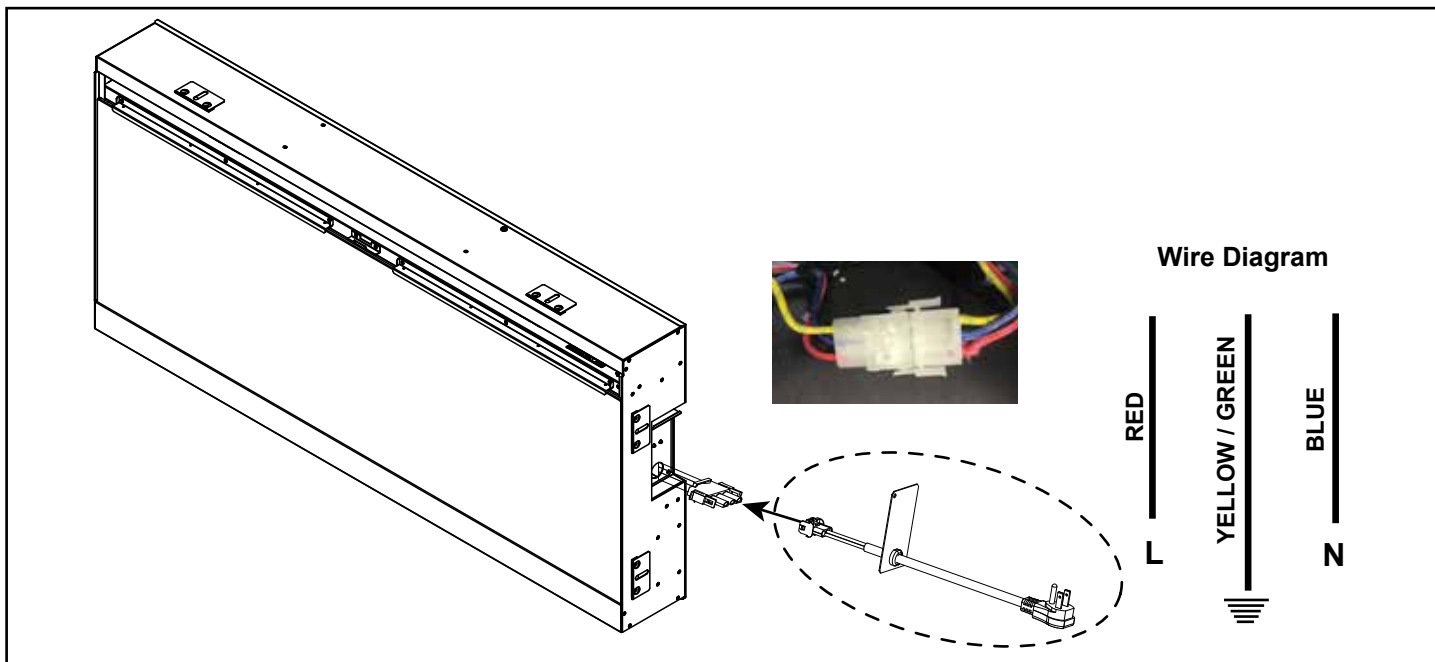

Figure 20 Power Cord
3. Connect the three conductor wire connector to the connector on the block supplied with the power cord kit. See Figure 20.